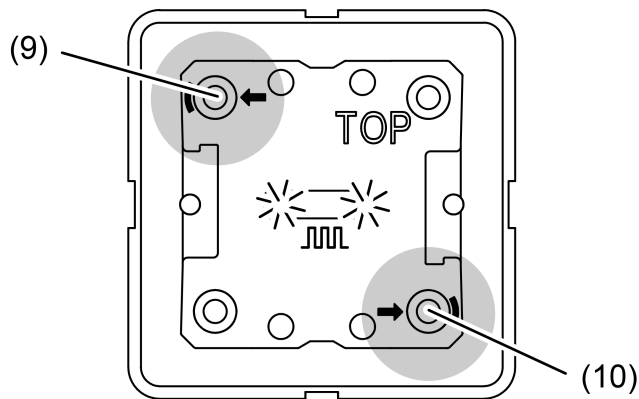

Figure 6: Buttons for activating Programming mode
- Activate programming mode: Press and hold push-button at the upper left (9). Then press push-button at the lower right (10) (see figure 6). The status LEDs flash rapidly (approx. 8 Hz). Programming mode is activated.
- Press and hold down the top left button and bottom right button (see figure 6).
- Press the top left button and bottom right button (see figure 6) and hold for more than 5 seconds.